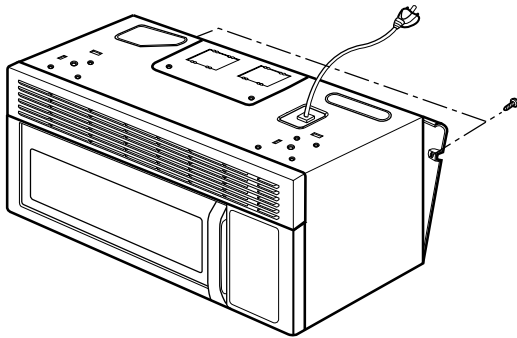

Figure 19
- (1) Remove the mounting plate by removing two screws securing it to the back plate. (See Figure 19)